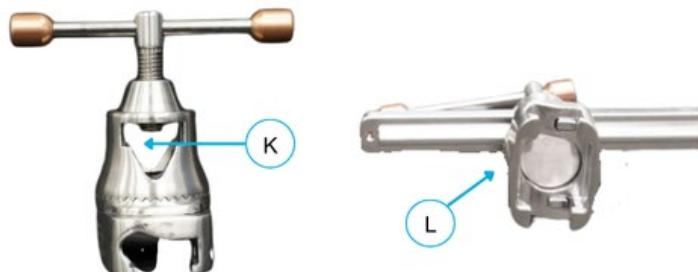

Figure 10-16: Motor Control Box Clark Clamp Side View, and Facing Out
- Attach through the triangular hole (**K**) on the Clark Clamp (**Figure 10-16**)
- The flat edge of the Clark Clamp faces away from the end of the OR bed (**L**) (**Figure 10-16**)